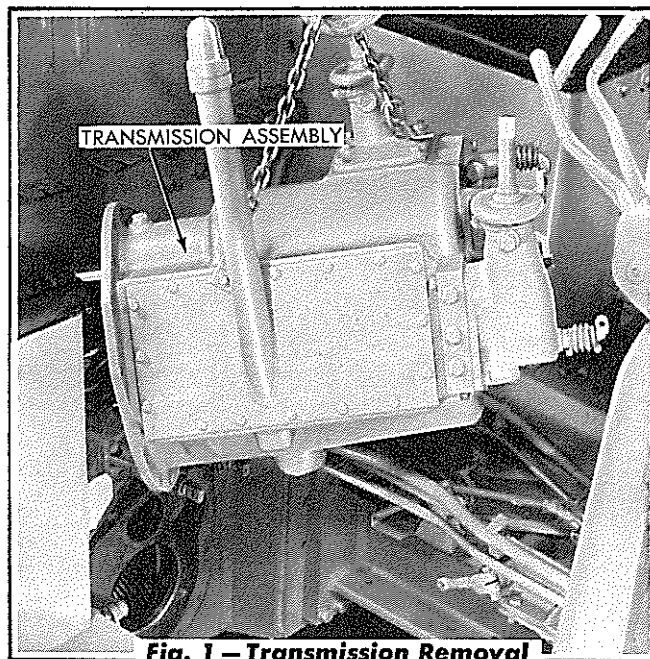

Fig. 1 – Transmission Removal
3. Disconnect the right brake pedal retracting spring from the spring anchoring angle and remove the spring, then remove the two (2) ½" capscrews from the right pedal shaft bracket and remove the bracket, pedal lever shaft, and pedal lever assembly as a unit by sliding it to the right until it is free of the left pedal shaft bracket. It is not necessary to disturb the left bracket.
7. Unlock and remove the four (4) capscrews attaching the rear universal joint yoke to the spider assembly. Hold the two (2) universal joint bearing assemblies to prevent them from falling off. Place a small pry-bar between the spider assembly and the rear yoke, and pry the drive tube assembly forward to clear the rear yoke. Tie or tape the bearing assemblies in place on the spider. Remove the universal joint drive tube and front yoke by pulling the assembly from the engine clutch shaft splines.
8. Refer to Fig. 1 and install a lifting chain as shown. With the lifting chain installed in this position, the transmission will balance properly for removal.